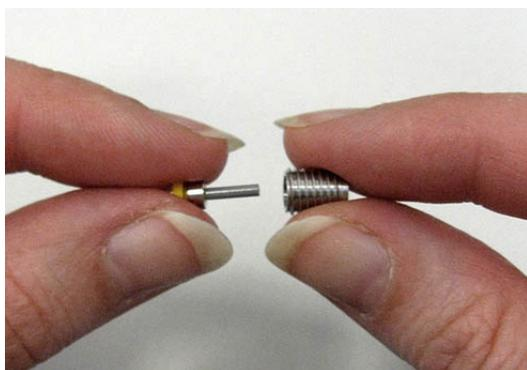

Fig. 27: Installing the low-flow drop former
5. Remove the drop former and drop former screw from their packaging and insert the drop former into the screw (→ Fig. 27). Then place the screw in the diverter valve (bottom side). Use the screwdriver tool shipped with the kit to carefully tighten the screw. You may have to retighten the screw if you observe leakage during operation.